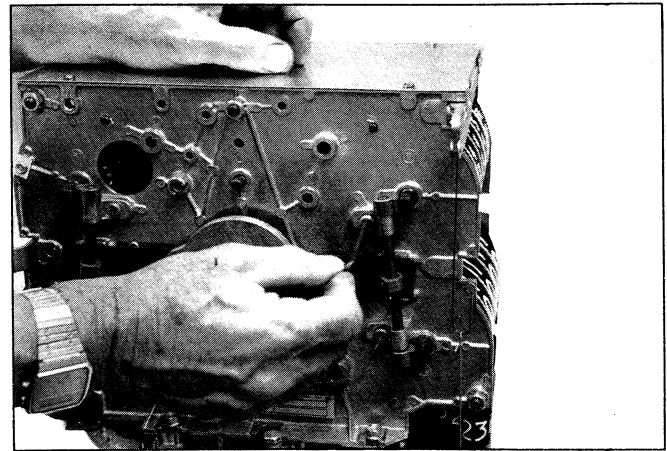

Figure 15. Removal of rocker shaft group screws.
- c. Remove rocker shaft group by taking out screws, Figure 15. If only one bank of wheels is to be removed, it is not necessary to completely remove rocker shaft group. Remove one screw and loosen the other screw to permit disengagement of the rocker shaft group from the wheel shaft being removed.